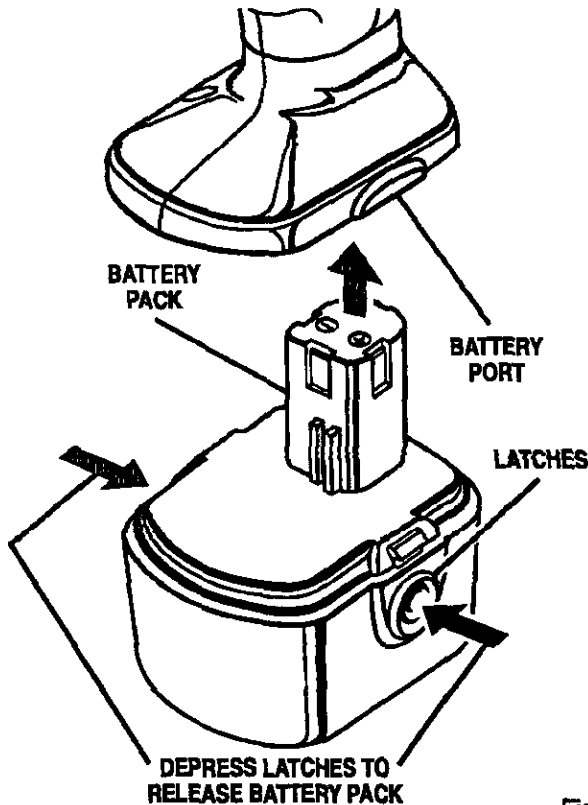

Fig. 4
- Place the battery pack in your drill. Align raised rib on battery pack with groove in drill's battery port. See Figure 4.